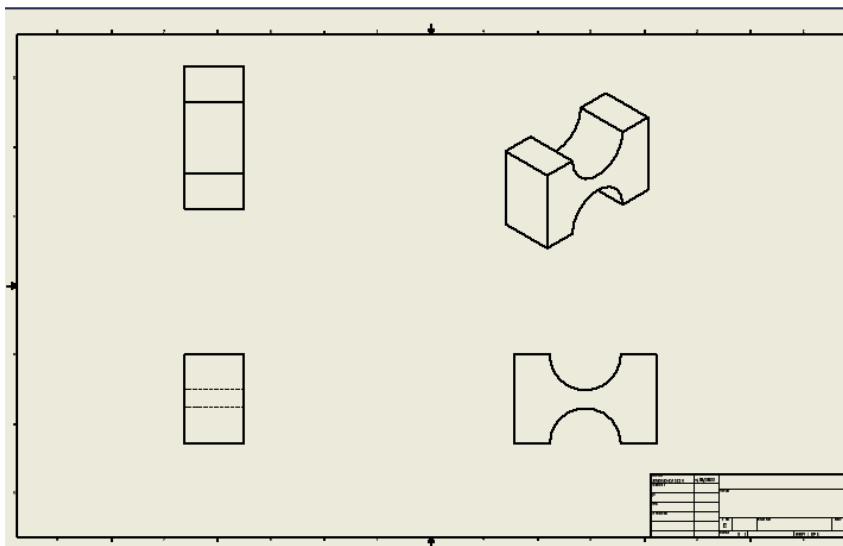

Figure 2-96 Drawing sheet after generating the drawing views
5. Similarly, taking the front view as the parent view, generate the drawing of right-side view and the isometric view, as shown in Figure 2-96.